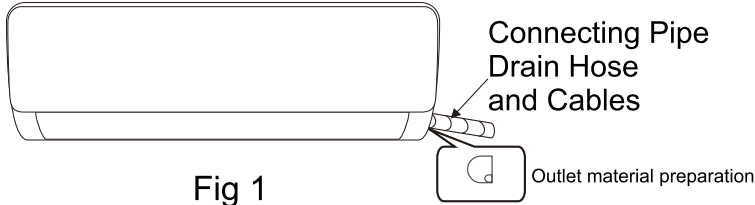
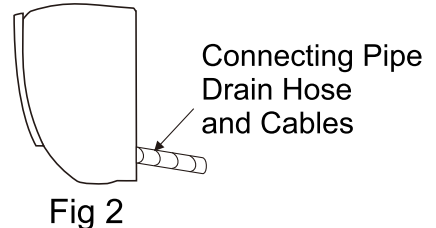

Fig 1
Fig 2
1. Depending on the position of the unit, the piping may be routed sideways from the left or the right (Fig 1), or vertically from the back(Fig 2)(depending on the pipe length of the indoor unit). In the case of sideway routing, cut off the outlet cutting stock of the opposite side.